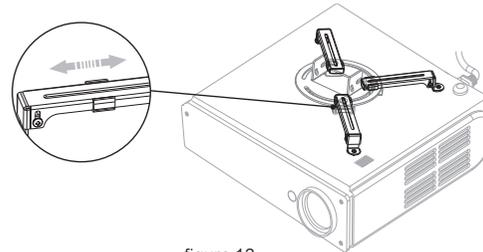

figure 12
2. If there are 3 holes, the installation arms (4-2) need to be taken apart from Installation bracket firstly. Connect 3 installation arms (4-2) to the projector, and then connect the installation arms (4-2) to the installation base (4-5) However, the installation base needs to be the center of projector. Figure 12.